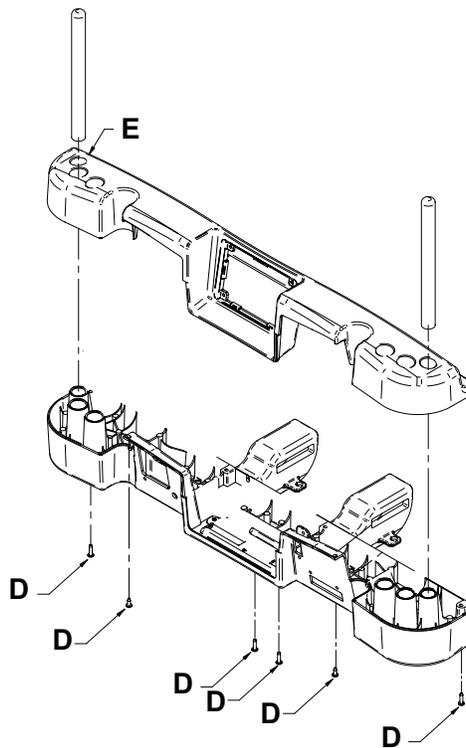

Figure 57 – Head frame cover
5. Using a #2 Phillips screwdriver, remove the six screws (D) from the head frame cover (E) (Figure 57). Lift up on the head frame cover and lay it on the litter. Save the screws.